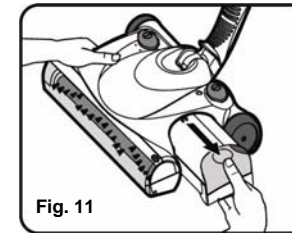

Fig. 11
1. Pull the dust container straight out from the side. (Fig. 11)